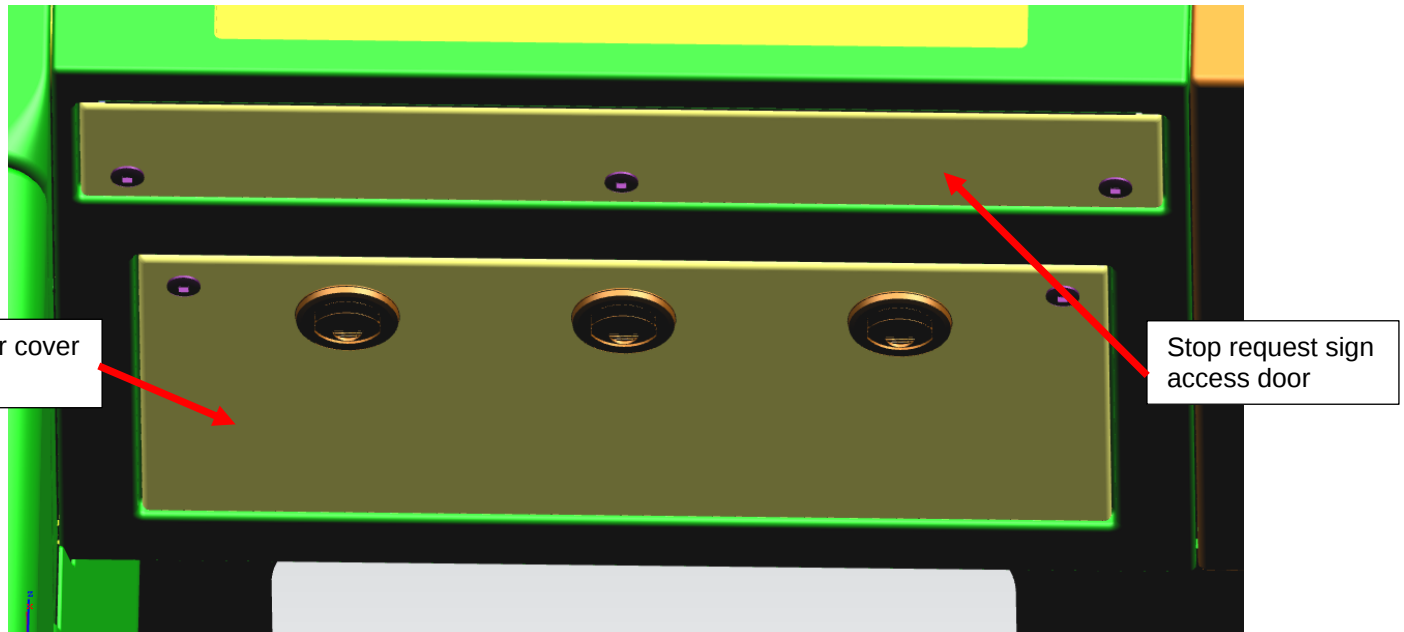

Figure 1 – Locate/open stop request sign and HVAC center cover access doors
2. Locate/open both stop request sign and HVAC center cover access doors. Refer to Figure 1.